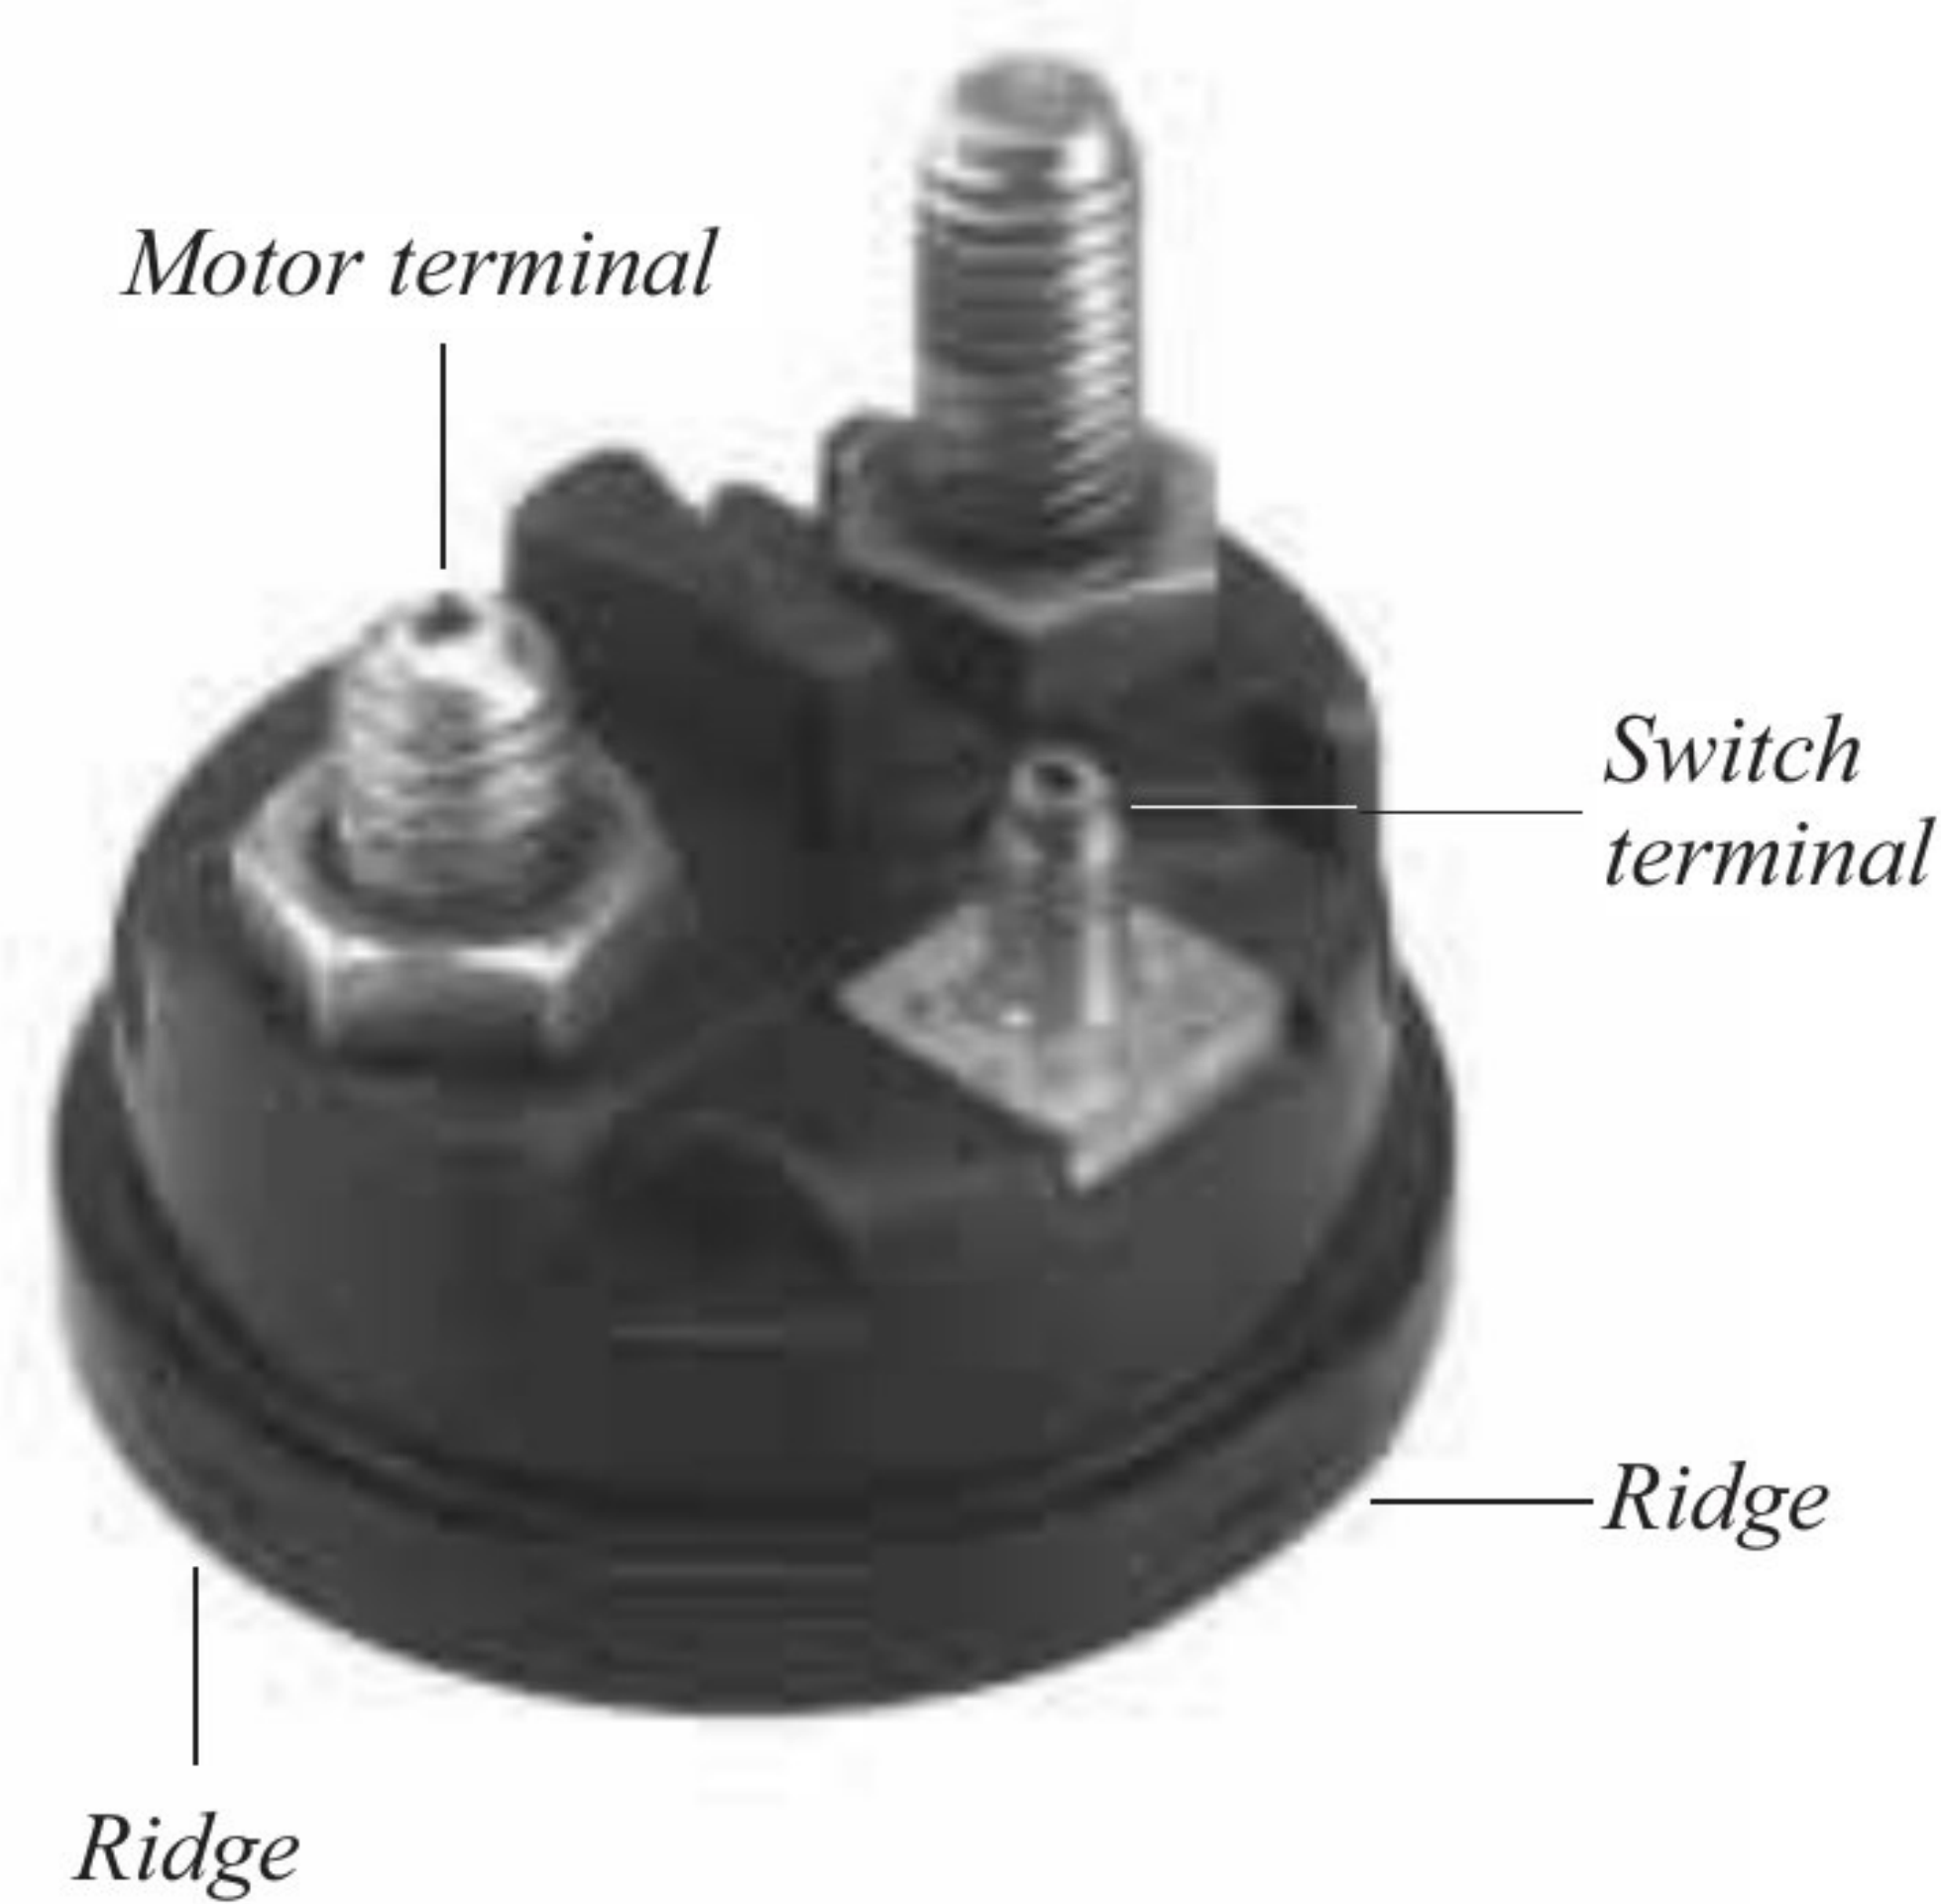

Figure 5. The four ridges in the lip of the OE cap for Delco can be used to gauge .115" when pressing out the cap.
6. Select a round press bar that fits into the solenoid plunger opening and press until the solenoid cap comes out of the body approximately .115." OE solenoids have a ridge in four places around the lip of the cap that can be used to gauge this distance. (See Figure 5.)